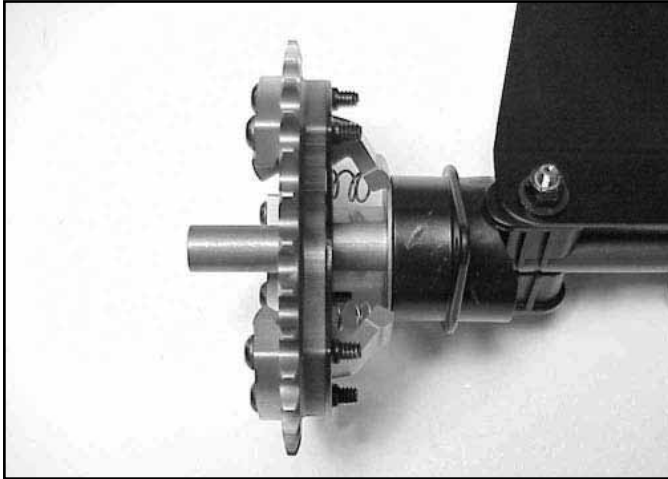

Fig 200
11. Slide the complete 32-tooth gear sprocket onto the shaft (Fig. 200).